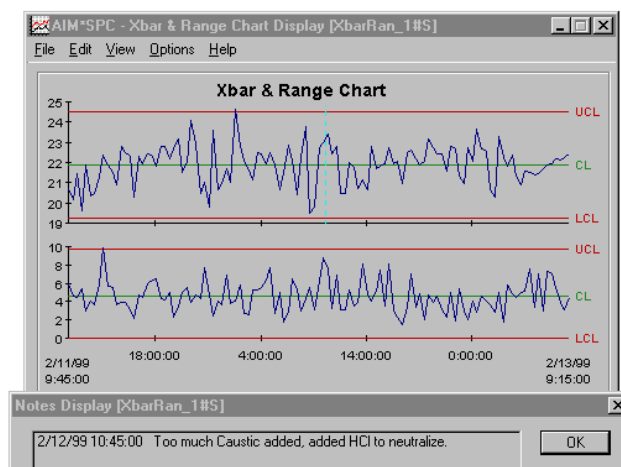

Figure 4.
- User-entered notes for a specific chart and time are available from chart displays and reports, as shown in Figure 4.